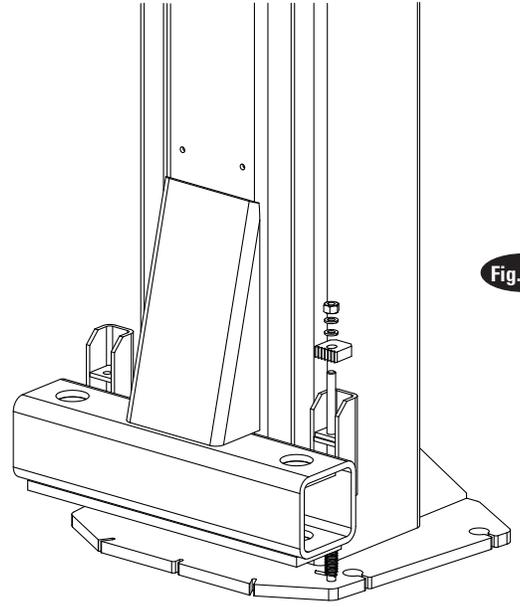

Fig. 26c
- C) Install restraint pawl, flat washer, and lock washer onto actuator pin. Install 10 mm nut but do not tighten, Fig. 26c.